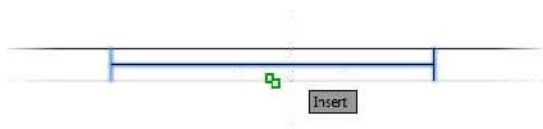

FIGURE 7.41: Snapping to the insertion point of the block
10. Place the cursor over the window block until the Insert marker appears (see Figure 7.41). Then click to define the base point for the COPY command as the insertion point of the block.